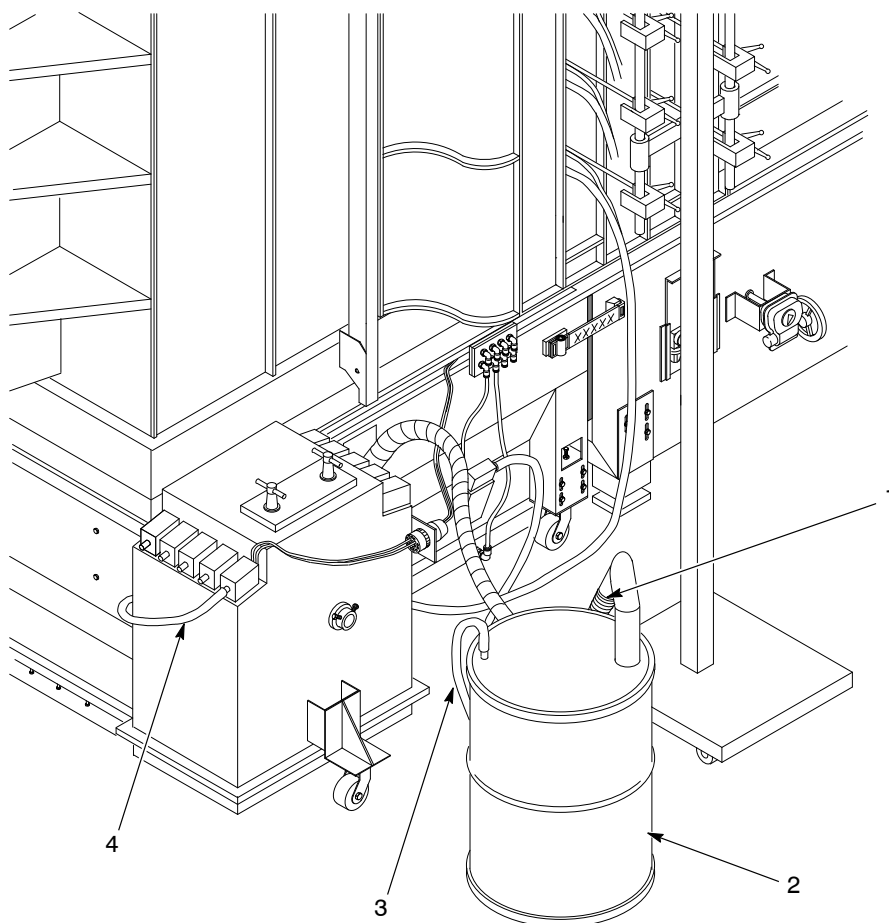

Figure 3-7 New Color Module/Feed Hopper Assembly (Horizon 400 Shown)
3. See Figure 3-7. Connect the transfer hoses (3) to a scrap drum (2). Connect a vent hose (1) from the scrap drum to a color-module vent stub.
4. Install new feed hoses (4) between the powder pumps and the spray guns, or use hoses that have already been used with the new color.